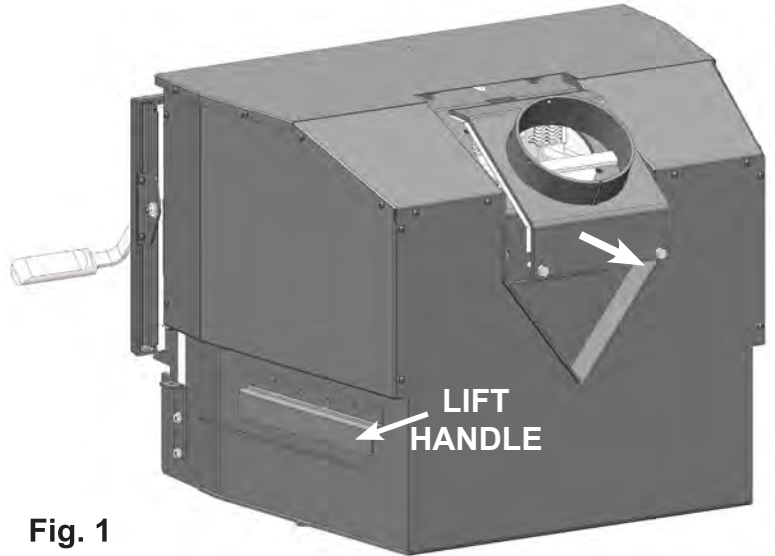

Fig. 1
2. Remove the two nuts from inside the firebox that hold flue collar assembly in place, use a 9/16" wrench (**Fig. 1**). Ensure gasket is still fully intact and adhered to flue collar base. Set flue collar assembly aside until "**flue collar preparation**" later in installation.